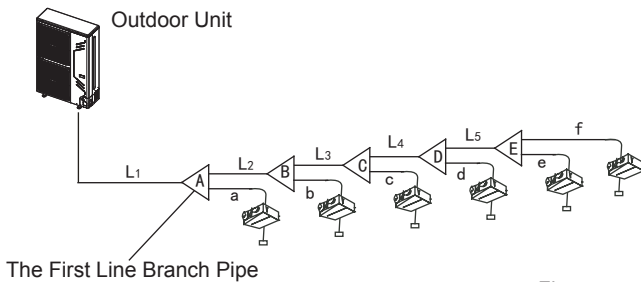
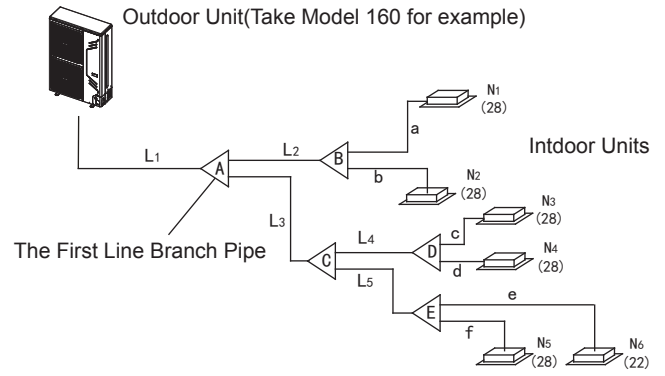
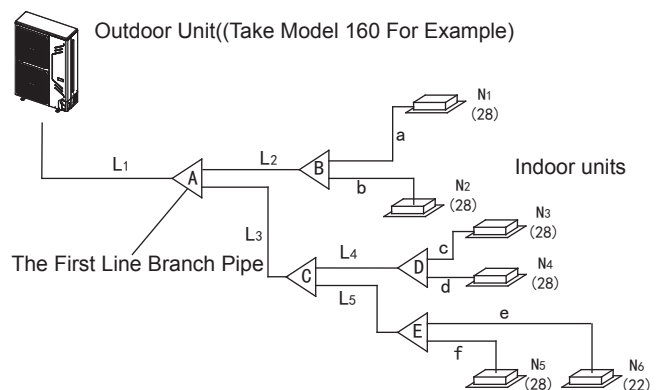
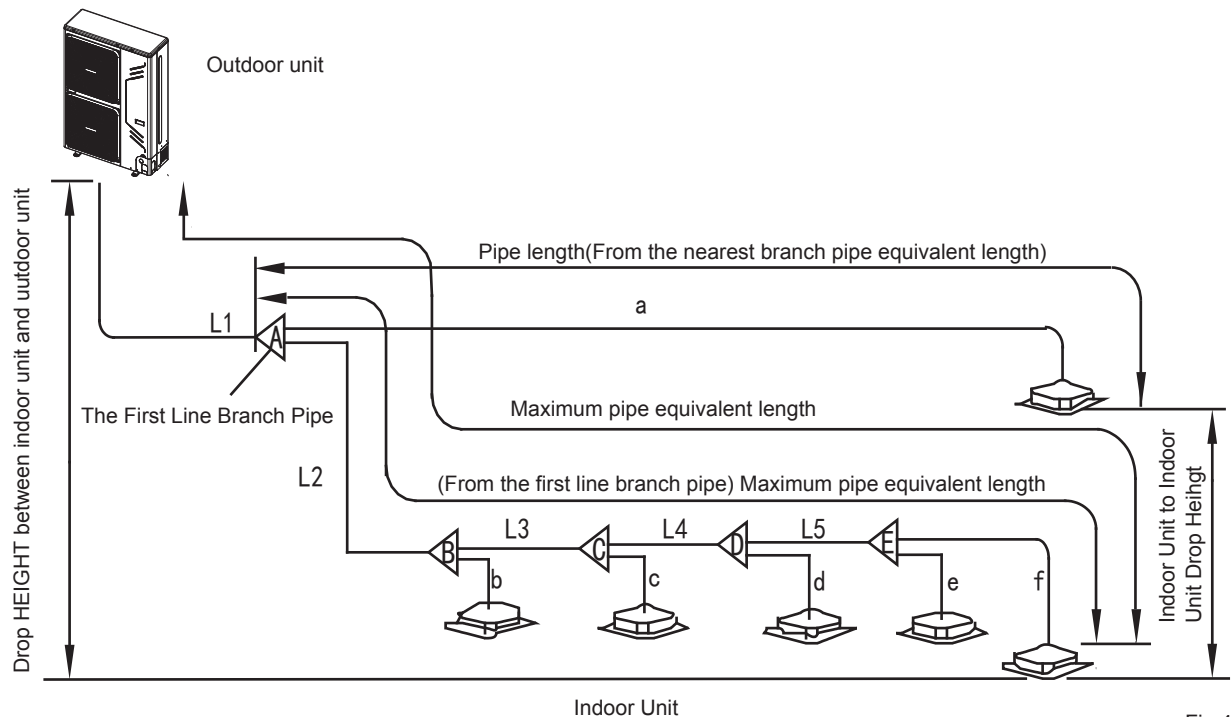

Fig. 4-4
Fig. 4-5
Fig.4-6
Fig.4-7
- 2) Example 1: In the Fig.4-5, The downstream inner units of the L2, and its total capacity is  $28 \times 2 = 56$ , refers to the Table 4.4, the air/liquid side of L2 is:  $\Phi 15.9/\Phi 9.5$ .
- Main pipe (Please refer to Fig.4-5 and Fig.4-7)
In Fig.4-6, the main pipe L1, the outdoor unit capacity is 16kW, and check the Fig.4-7 to get the size of gas pipe/liquid pipe is  $\Phi 19.1 / \Phi 9.5$ , and aslo the total equivalent length of liquid side and gas side pipes is  $> 90m$ , then check the Fig.4-4 to get the size of gas pipe/liquid pipe is  $\Phi 22.2 / \Phi 9.5$ , and according to the maximum value principle, it should apply the  $\Phi 22.2 / \Phi 9.5$ .